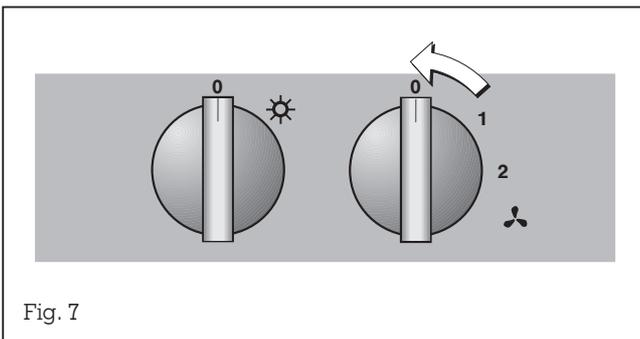

Fig. 7
- Turn the "Ventilation level" control knob to the 0 position (Fig. 7).